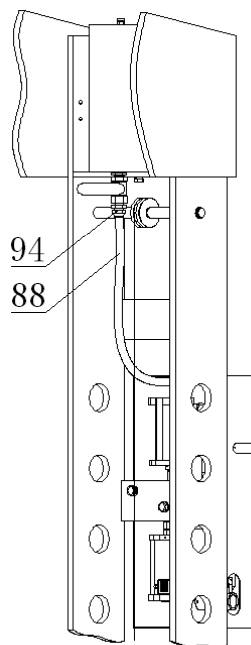

Figure 5
Then connect the oil supply hose (88) to 1/2" connector (94) (refer to fig.5)